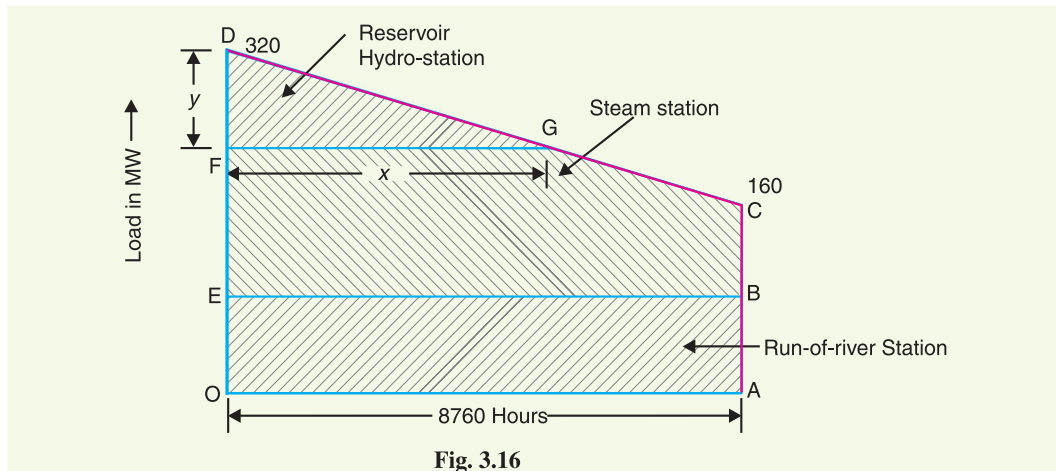

Fig. 3.16
**Example 3.22.** The annual load duration curve for a typical heavy load being served by a steam station, a run-of-river station and a reservoir hydro-electric station is as shown in Fig. 3.16. The ratio of number of units supplied by these stations is as follows :
**Solution.** *ODCA* is the annual load duration curve for the system as shown in Fig. 3.16. The energy supplied by the reservoir plant is represented by area *DFG*; steam station by area *FGCBE* and run-of-river by area *OEBA*. The maximum and minimum loads on the system are 320 MW and 160 MW respectively.
Suppose the maximum demand of reservoir plant is  $y$  MW and it operates for  $x$  hours (See Fig. 3.16).